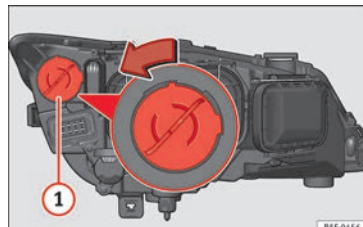

Fig. 104 Day light bulb.
- Turn the bulb holder » **Fig. 104 ①** to the left and pull.